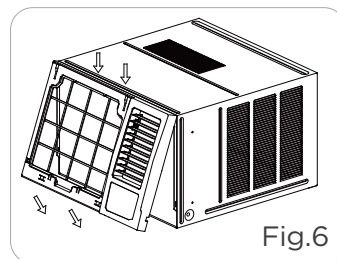

Fig.6
1. Hook the upper edge of the frame. (see Fig.6).